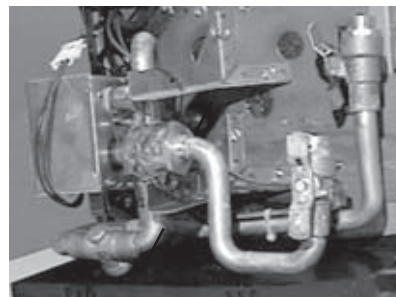

Figure 9. Remove the shipping brackets which support the factory piping package before connecting piping.
1. The factory piping package ships with brackets to adequately support the piping during shipment. Remove these brackets before connecting water piping to the unit. See Figure 9.